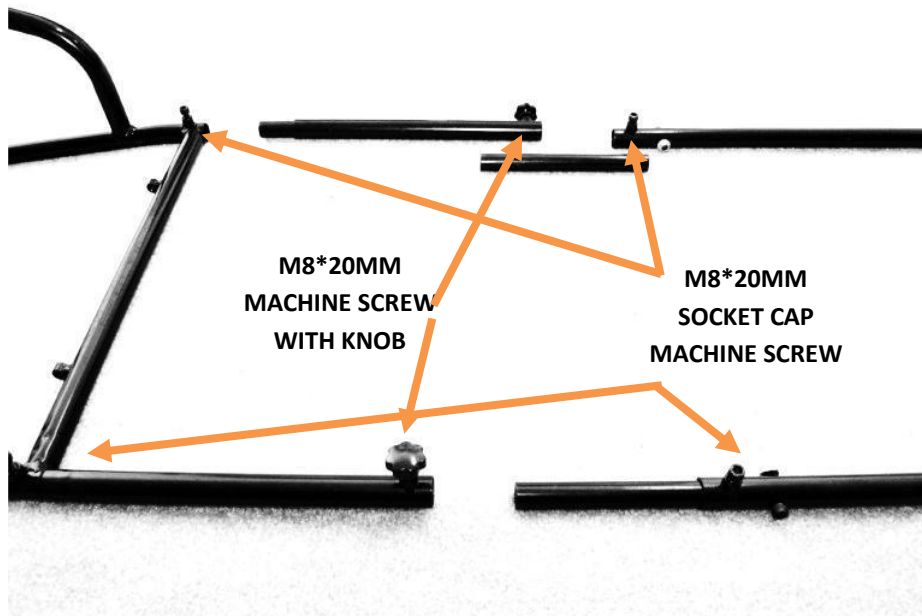

FIGURE 1: ATTACHING MONITOR BASE TO SEAT BASE
Begin assembly by attaching the monitor base to the seat base using the adjustment tubular connectors as shown in **FIGURE 1** below. The inner adjustment tubes allow you to vary the distance between the seat base and the monitor base. Use four (4) M8*20mm Socket Cap Machine Screws (No. 3) and two (2) M8x20mm Machine Screws with Knob (No. 5). You can adjust the optimum seat distance later.